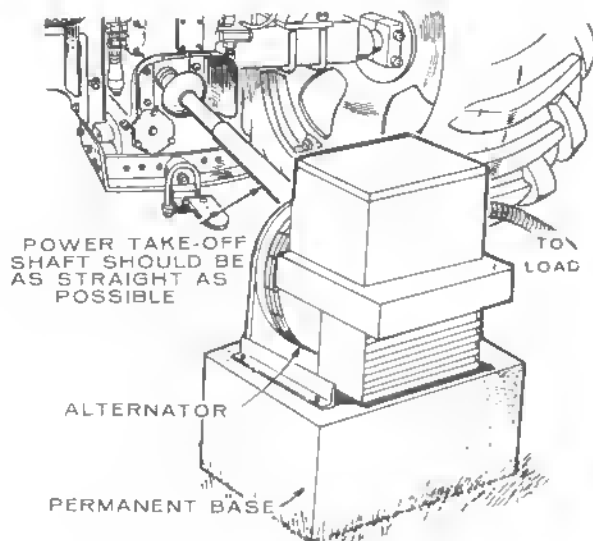

FIGURE 8. TRACTOR CONNECTION
2. Back the tractor up so the PTO shaft will be straight and level as possible when connected (Figure 8).